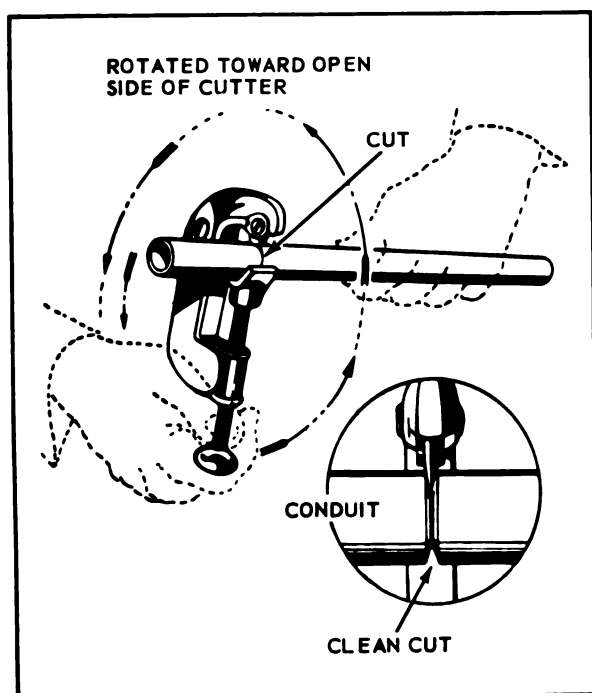

Figure 11-4. Cutting Rigid Metallic Conduit
d. Cut conduit to final length with a tubing cutter as shown in figure 11-4. If a tubing cutter is not available use a hack saw with 32 tooth blade.